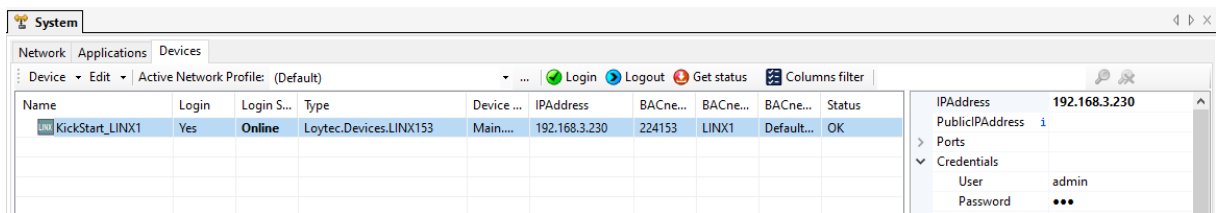

Figure 64: Enter IP address and credentials for the device resource.
22. Edit the IP address, login credentials for the device as shown in Figure 64. Then click **Save** in the toolbar.